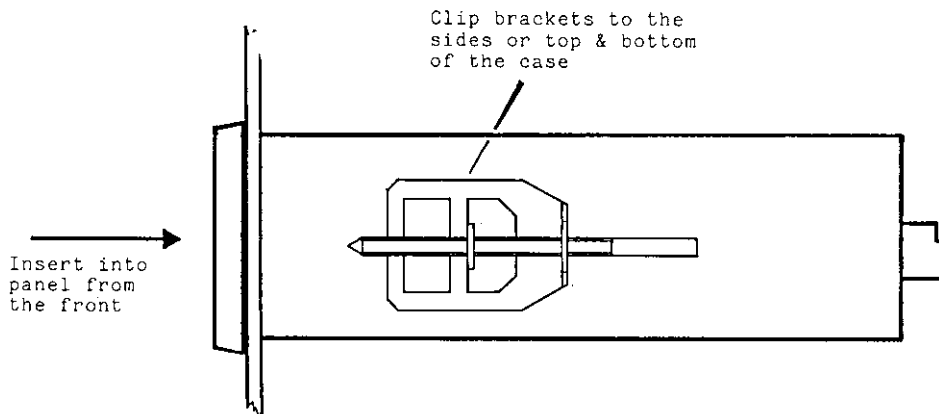

Fig 8 Mounting bracket assembly
- ii Clip a retaining bracket to each side of the instrument as shown in Fig 8 and tighten the two screws until the indicator is secure. Do not overtighten.